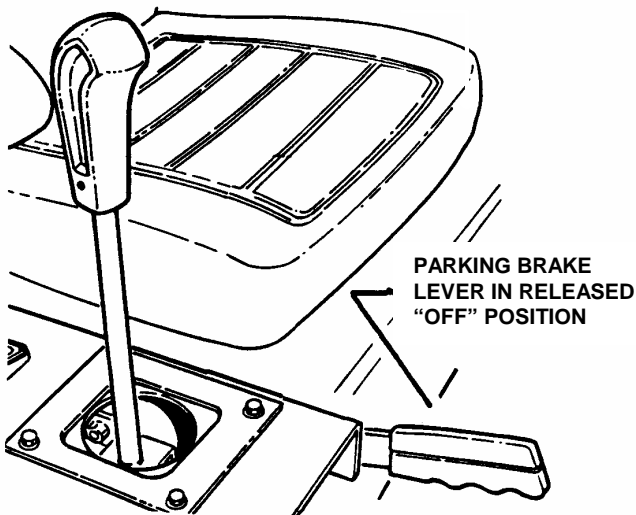

FIGURE 2.7
2. Release parking brake by pushing parking brake lever forward to the released position. See Figure 2.7.